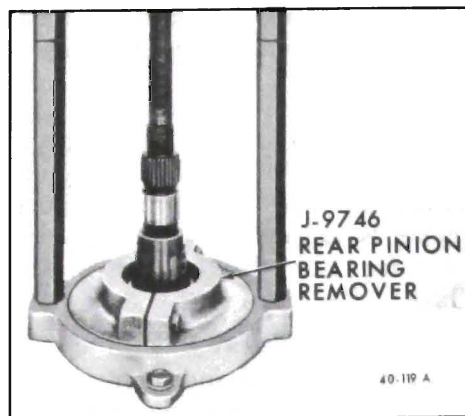

Figure 40-98 - Removing Rear Pinion Bearing
5. If rear pinion bearing is to be replaced, remove rear pinion bearing from pinon shaft using Remover J-9746 with Holder J-6407. See Figure 40-98.